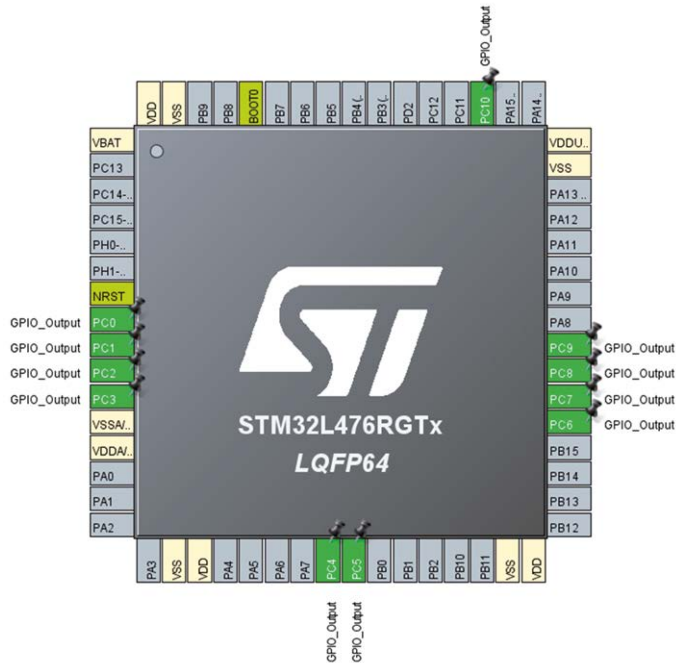

Figure 5.77: Configure the GPIO.
- Configure PC0 to PC10 as digital output (Figure 5.77).